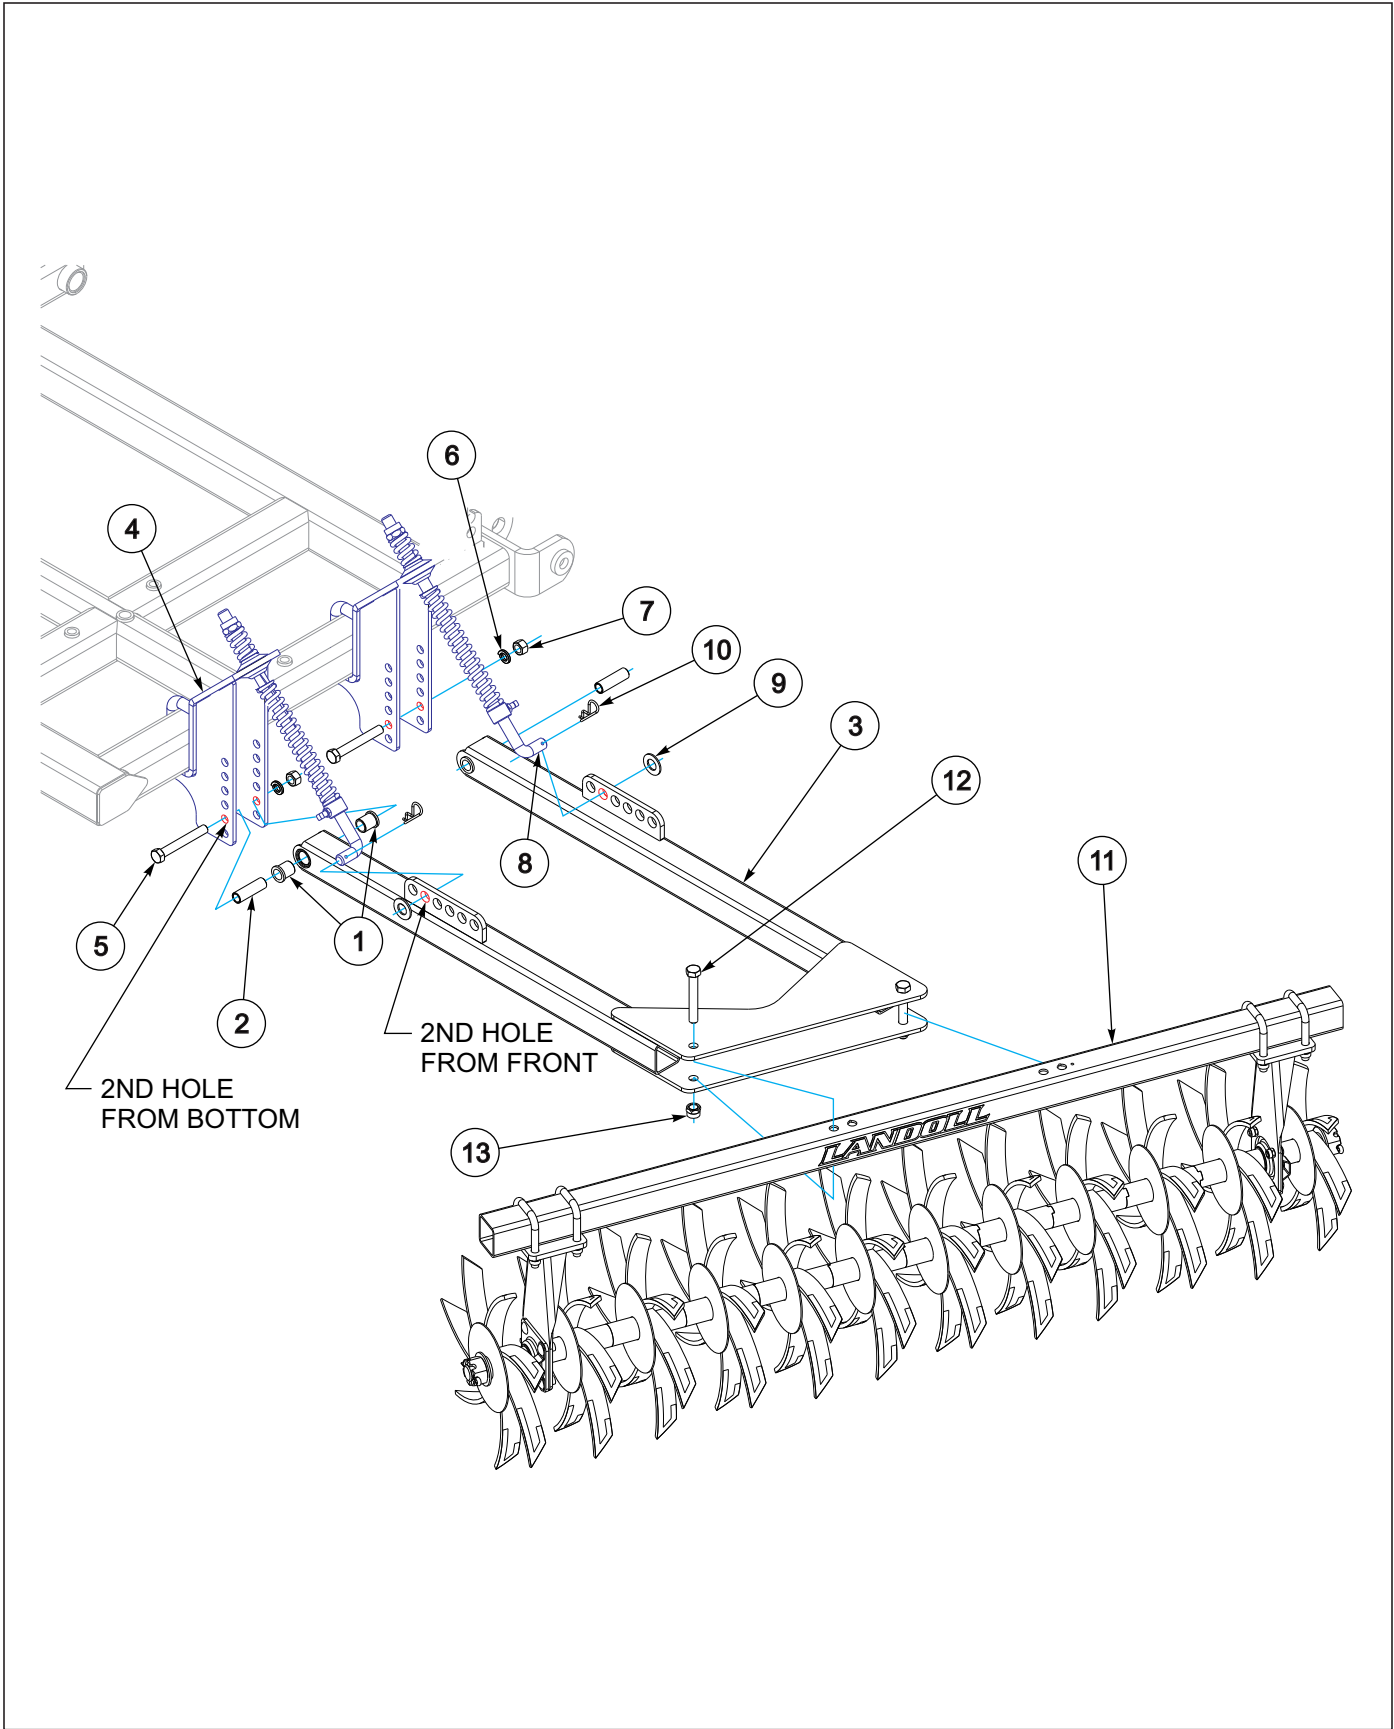

Figure 3-13: Treder Arm & Reel Assembly (Standard)
2. Refer to Treader Arm Assembly **See Figure 3-13.** for proper assembly of treader arms.
3. Install bearing flanges (1) and treader hinge bushings (2) in both tubes of treader arm weldments (3). Align holes of treader arm weldments with second hole from bottom of treader arm mounts (4). Install 3/4-10x5-1/2" hex bolts (5), 3/4 lock washers (6) and 3/4-10 hex nuts (7).
4. Raise treader arm weldments (3) until spring rod assemblies (8) will slide into 2nd hole from front and secure with 1" flat washers (9) and 3/16" hair pin (10) **See Figure 3-13..**